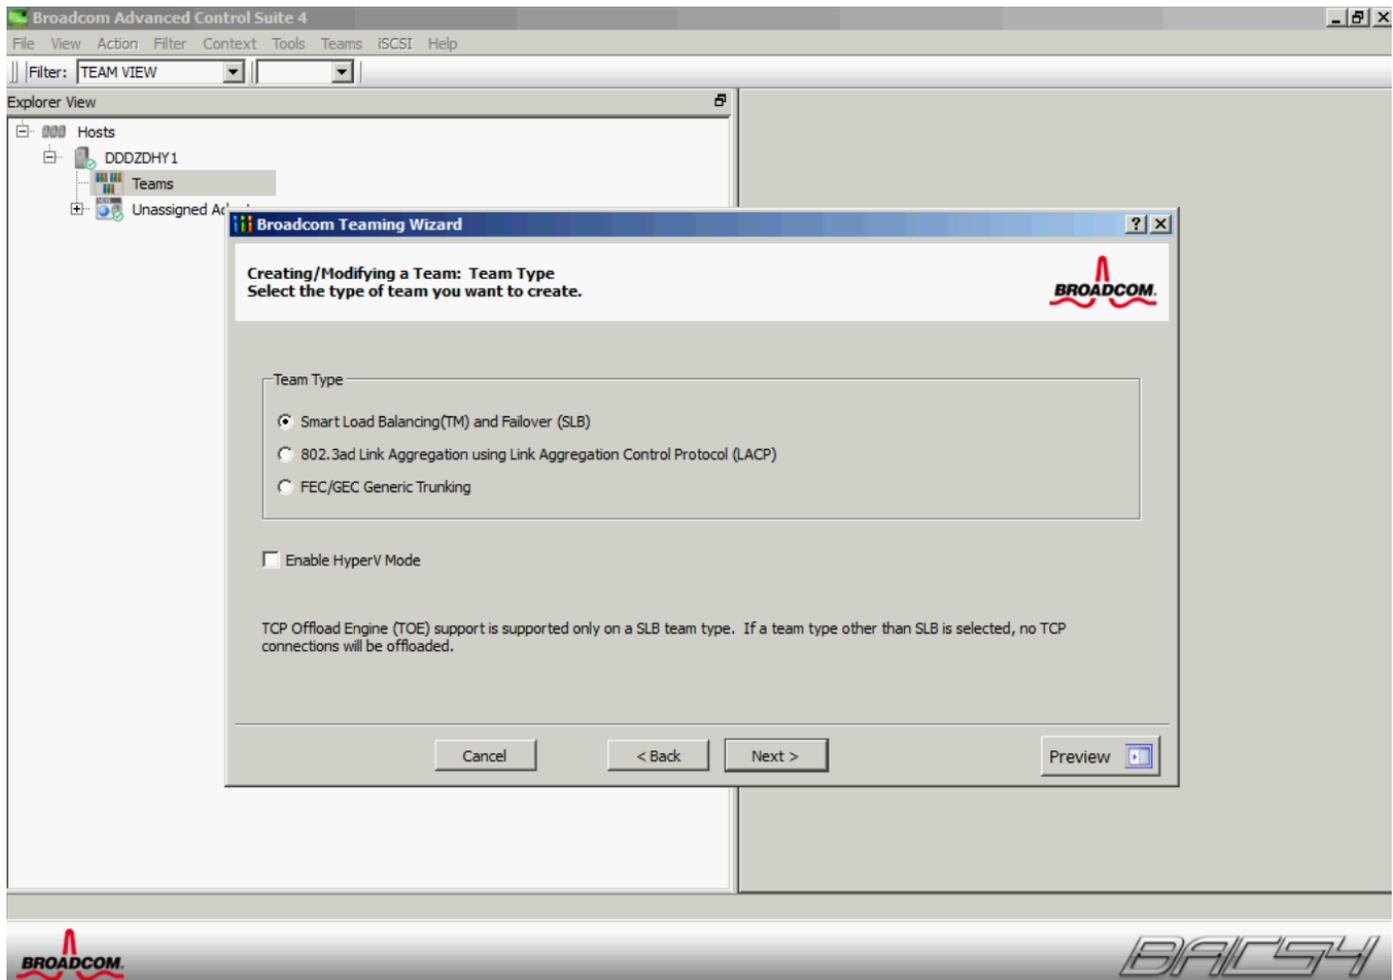

Figure 15 Selecting 'Smart Load Balancing and Failover' option for NIC teaming
9. Click the radio button next to Smart Load Balancing™ and Failover (SLB) (Figure 15), and click next.